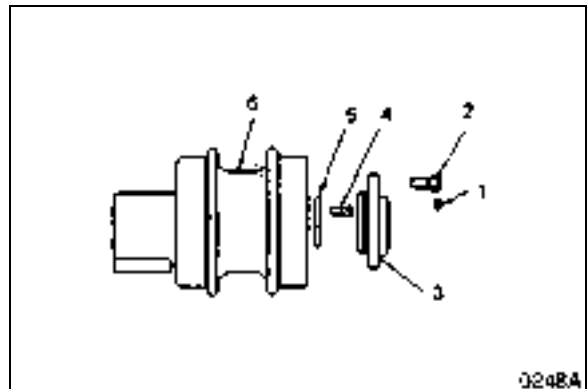

Figure 48
3. Install the axle, washer (5, Figure 48) and bolt (4).
4. Attach group seal (8, Figure 39) to the roller (6, Figure 48) and cover (3).
5. Insert the O-ring (11, Figure 48) to the cover. Attach cover (3) and bolt (2) to the roller.